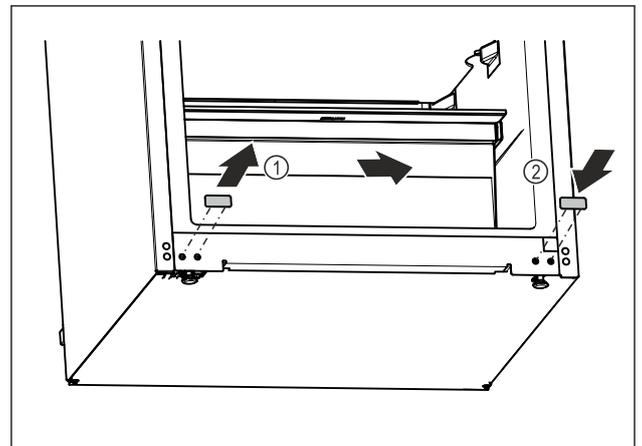

Fig. 19
- ▶ Pull out the cover plug. Fig. 19 (1)
- ▶ Insert the cover plug on the opposite side. Fig. 19 (2)